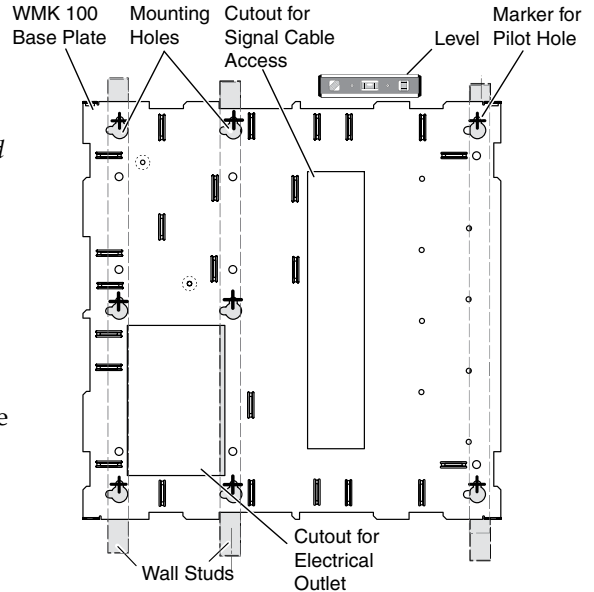

Figure 3 — Non-masonry wall mounting
NOTE For ideal installation secure the base plate to at least one wall stud (see figure 3). Drywall Kap toggles can be used for holes not aligned with studs.
- ii. Hold and level the base plate against the wall and mark the positions of the slotted mounting holes that are on the stud lines (see figure 3, indicated by + marks). Where applicable, mark the mounting holes on the wall for drywall toggles. Set the plate aside.
- vii. If the cables are to be run behind the wall to the WMK location, mark the cutout area on the wall for the signal cable access hole (see figure 3).